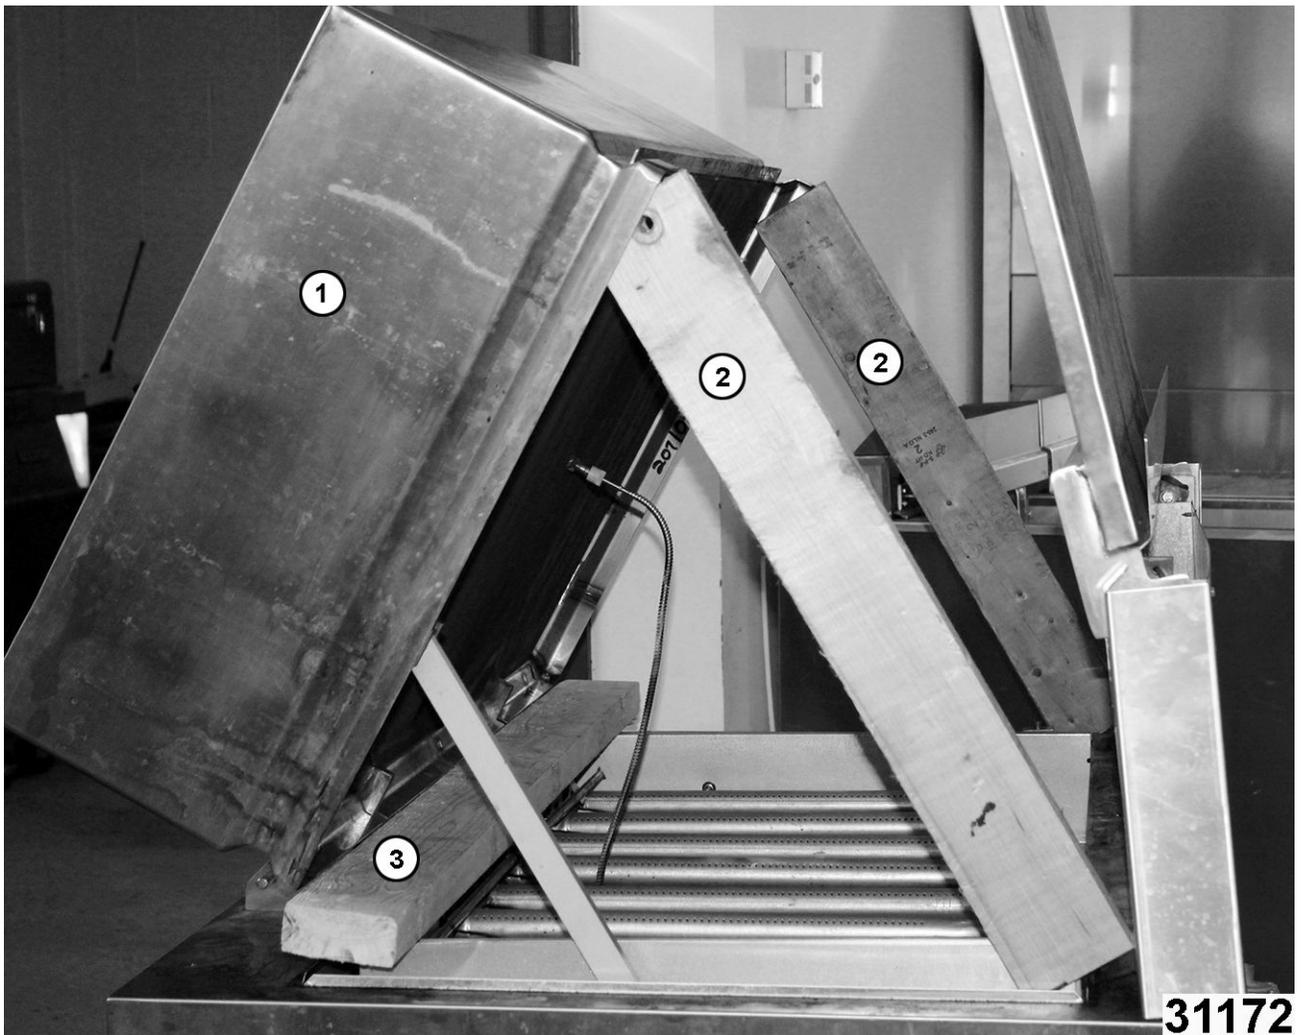

Fig. 42
- A. Block braising pan (1, Fig. 42) with two 26" long wood blocks (2" x 4") (2, Fig. 42), one at each end.
- B. Place 2"x4" wood block, 48 inches long, (3, Fig. 42) across front of braising as shown.